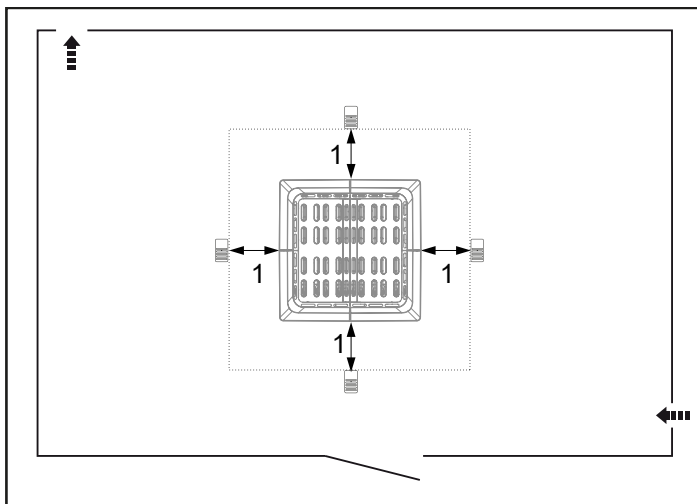

Figure 4: Sensor installation on ceiling
- Plan the sensor positioning (see Figure 3 and Figure 4).
When positioned in the middle, consider the air intake and exhaust vents to achieve an even heat distribution. The sensor is installed in the ceiling at a distance from the heater according to Figure 4.